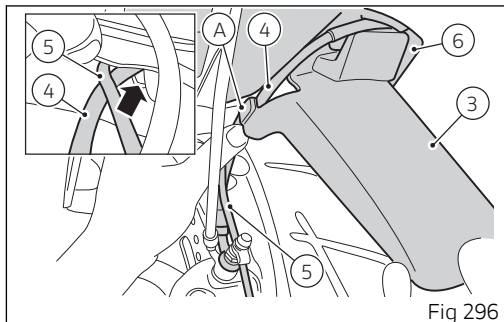

Fig 296
Position the front semi-mudguard kit (3) on the front mudguard (6), housing the front brake pipe (4) and the front phonic wheel cable (5) as shown in the figure (Fig 296).